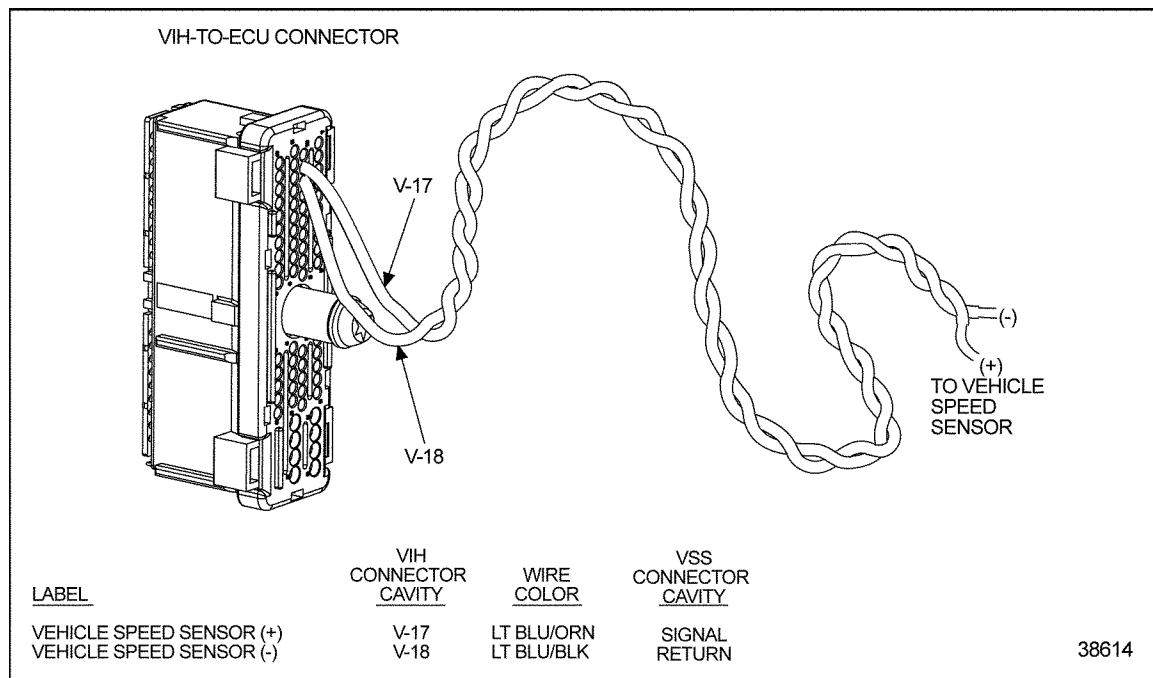

Figure 53-2 VIH-to-ECM/ECU Connector
2. Measure voltage at the ECM/ECU VIH connector between socket V-17 and a good ground. Also measure voltage between socket V-18 and a good ground. See Figure 53-2.
3. Check the terminals at the ECM/ECU VIH connector for bent, corroded, and unseated pins or sockets, on both the ECM/ECU and harness sides. See Figure 53-2.
2. Measure resistance between sockets V-17 and a good ground. See Figure 53-2.